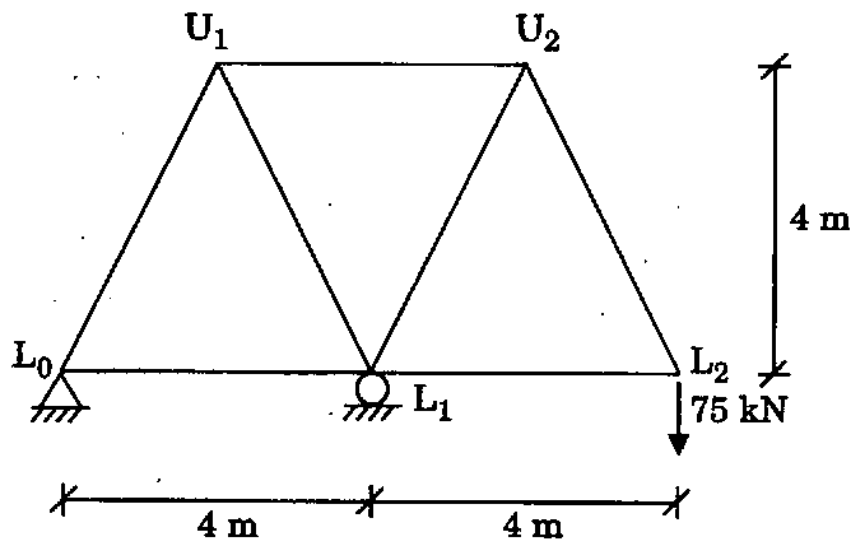

Figure 5
3. (a) Determine the vertical deflection of joint  $L_2$  of the truss shown in Figure 5. The area of cross-section of the members is  $20 \text{ cm}^2$  each. Take  $E = 200 \text{ GPa}$ .